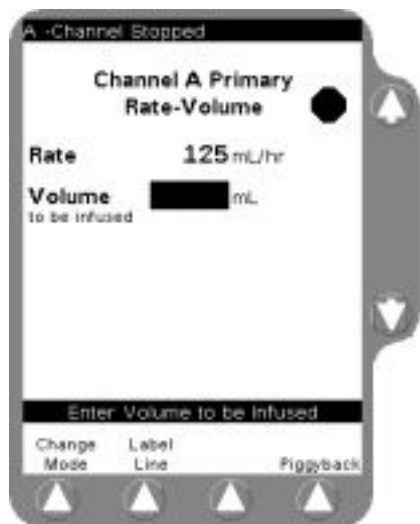

Figure 3-15 Enter Volume to be Infused
3. Press the **Vol** key or use the  $\uparrow\downarrow$  keys to highlight the **Volume to be Infused** field for programming (Figure 3-15).